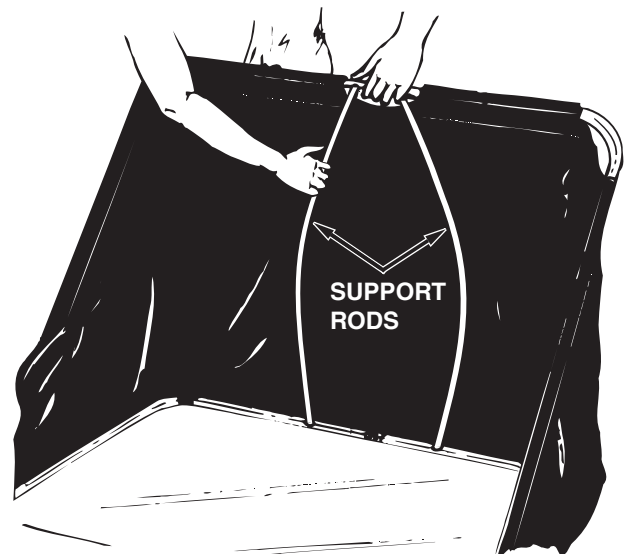

FIGURE 14
- Assemble the two hopper support rods as shown in figure 14. Place the ends of the rods into the holes in the upper and lower hopper tubes, flexing the rod just enough to fit into the holes in the tubes.
**NOTE:** The hopper's mesh wind screen is not shown in figure 14 in order to better show the hopper support rods.